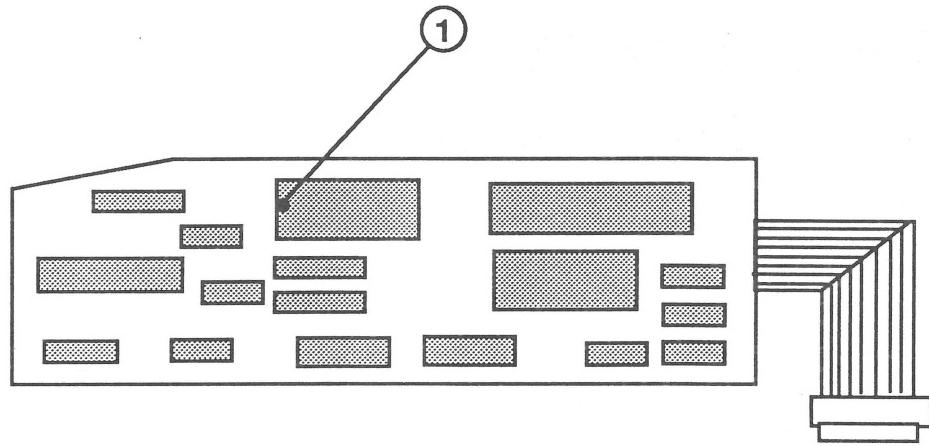

FIGURE 5
- IPL.7 SCSI Interface Card (Figure 5)
SCSI INTERFACE CARD (Figure 5)